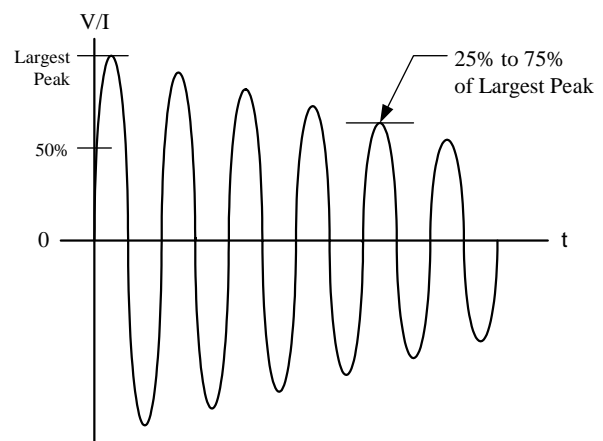

Figure 5 DO160 Lightning Induced Transient Voltage Waveform #3 Pin Injection
2. Per DO160, Sect 22 Level 3 pin injection. See Figures 5 – 7.